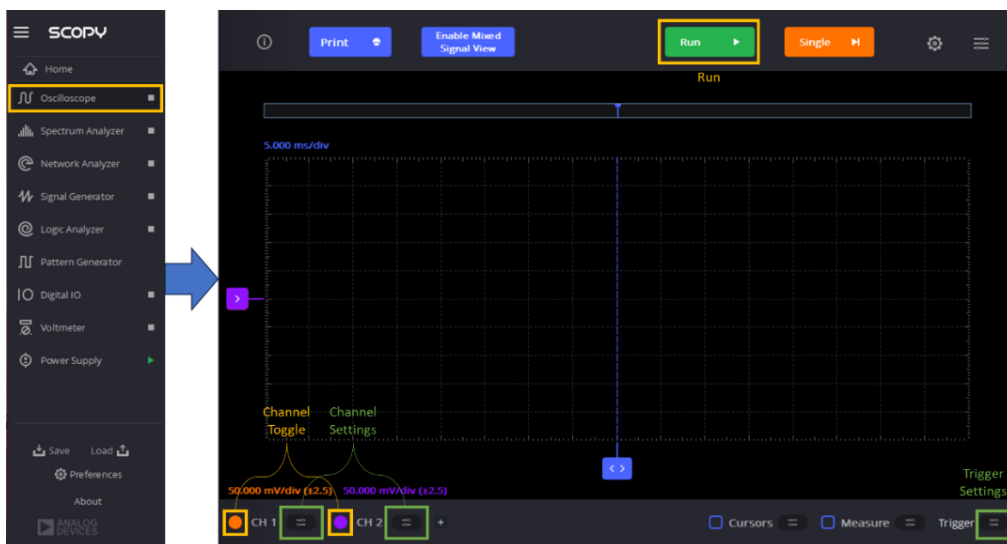

Figure 9. Oscilloscope UI of Scopy
2. Go to the **Oscilloscope** tab. Figure 9 shows the UI and its functions.